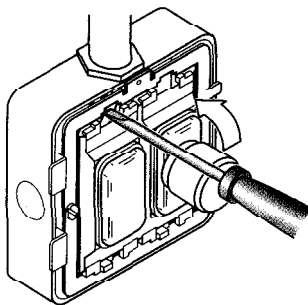

Fig. 2 Module Removal Procedure
- The modules can be removed by placing the blade of a small flat bladed screwdriver in the top clip fit section and levering out. On the 2 Module Dimmers all four latches have to be unclipped before the Dimmer can be removed (see Fig. 2).